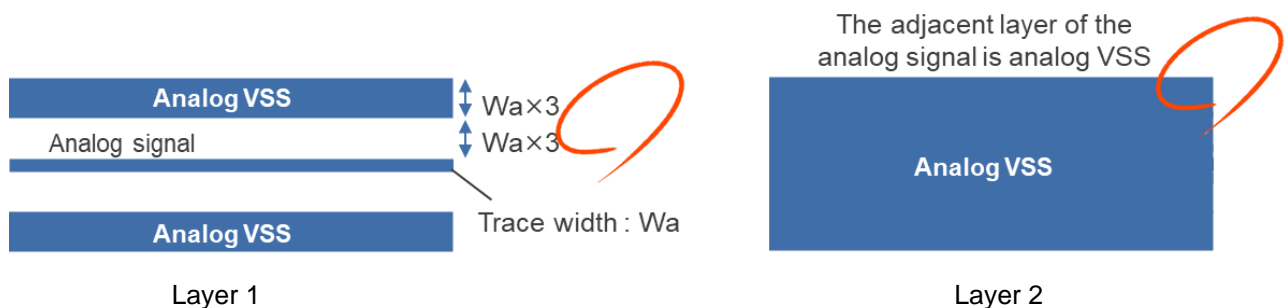

Figure 17, Recommended design image: Example of shielded trace (Top View)
- The signal trace of the analog terminal is the same layer as the power supply/VSS/other signals (especially traces with large currents and high-speed signal patterns) with a Min trace width and /Space out adjacent layers, stop paralleling, and shield with analog VSS. The width of the analog VSS shield trace should be at least three times the width of the analog signal trace, and the distance between the analog signal trace and the analog VSS shield should be three times the trace width or three times that of the adjacent layers (See Figure 17).